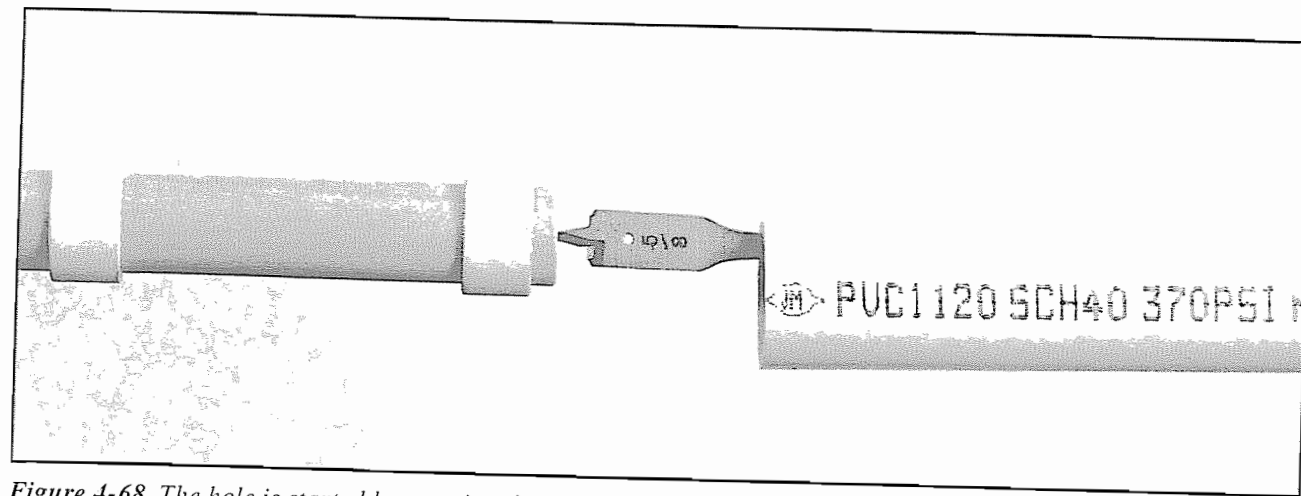
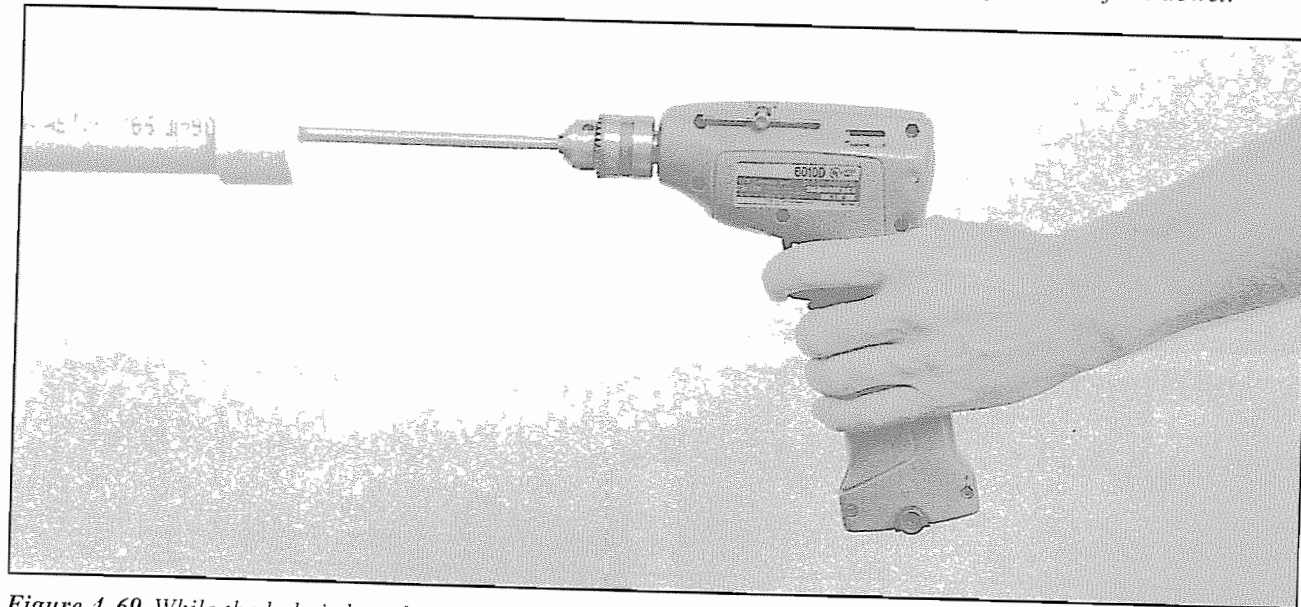

Figure 4-68. The hole is started by pressing the point of the boring bit into the center of the end of the dowel.
Figure 4-69. While the hole is bored with an electric hand drill, the boring jig keeps the bit running straight.
3. Using a folded rag to protect the dowel from damage, grip the dowel *gently* in a vise, and drill a small starter hole in the center of one end. Press the tip of the Speedbor into the starter hole (**Figure 4-68**), and *keep it there* while you slide the jig *over* the two tape rings. Then start up the drill, and bore the hole (**Figure 4-69**).